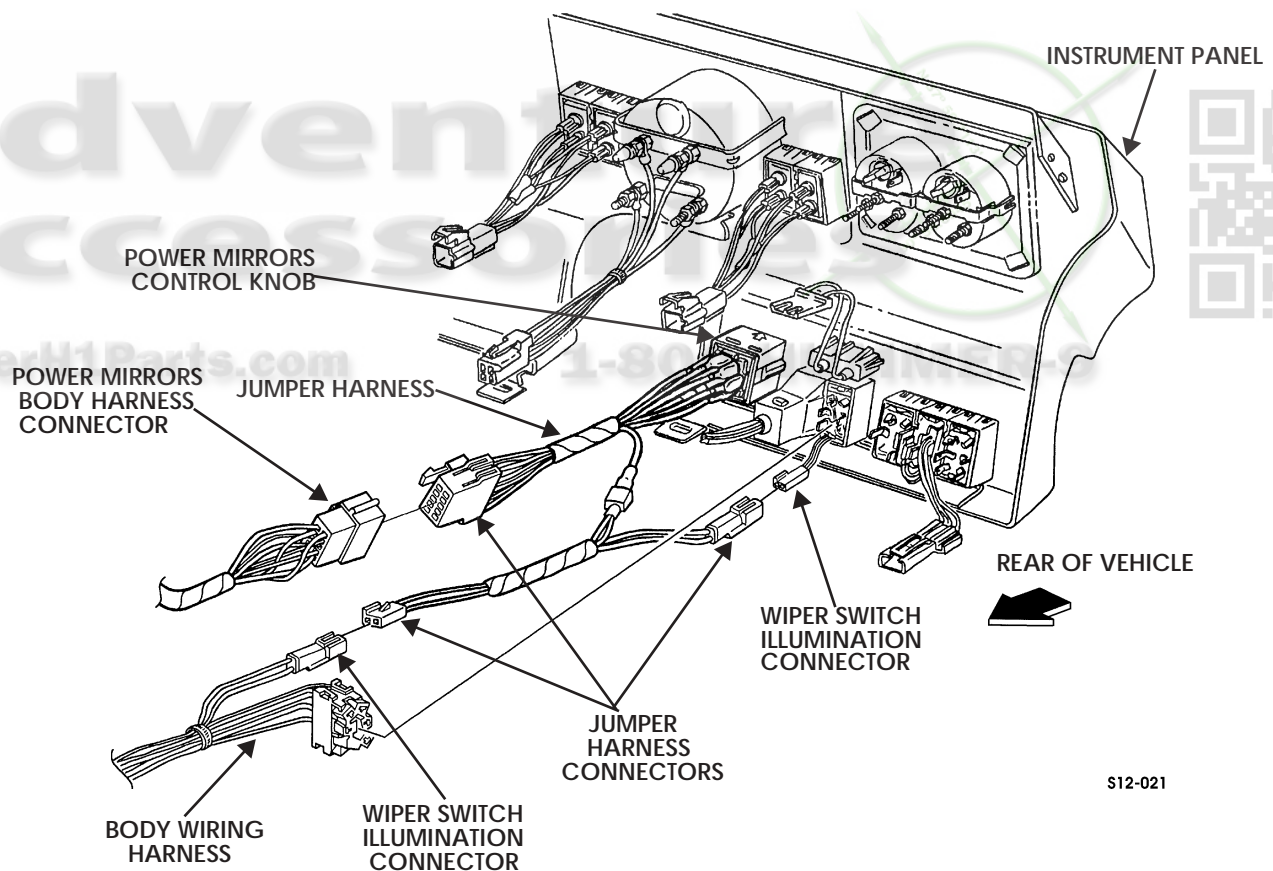

Figure 13-101: Power Mirrors Switch Jumper Harness
3. Disconnect jumper harness connector from connector on power mirrors body harness connector (Figure 13-101).
1. Feed jumper harness through square hole in instrument panel until control knob on end of jumper harness snaps into place (Figure 13-101).